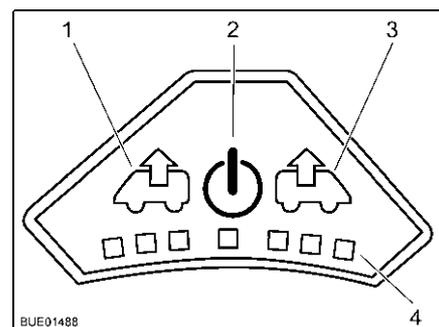

Fig. 110 Control panel for fan
- Press the On/Off button (Fig. 110,2). The fan runs in comfort mode (venting at slowest fan speed).
- To increase the fan speed: Press the Vent button (Fig. 110,1). The fan speed in the venting direction increases by one level. LEDs (Fig. 110,4) show the operating levels.
- To lower the fan speed: Press the Aerate button (Fig. 110,3). The fan speed decreases by one level.
- To increase the fan speed: Press the Aerate button (Fig. 110,3). The fan speed in the aerating direction increases by one step. LEDs (Fig. 110,4) show the operating levels.
- To lower the fan speed: Press the Vent button (Fig. 110,1). The fan speed decreases by one level.
- Press the On/Off button (Fig. 110,2). The fan stops, the LEDs go out.